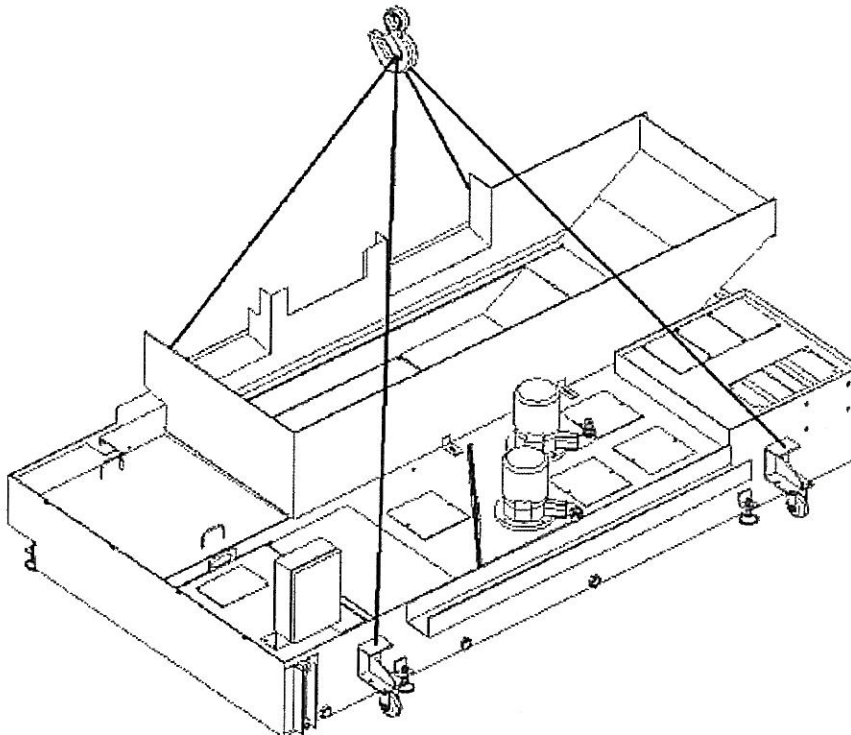

Figure 5.4.3: Lifting the Coolant Tank
- If an overhead crane is used, lift the complete coolant tank by using wire ropes of sufficient length and strength. Fix the ropes on the four corner of the coolant tank as shown in the Figure 5.4.3.
Refer Figure 5.4.3 for lifting details.